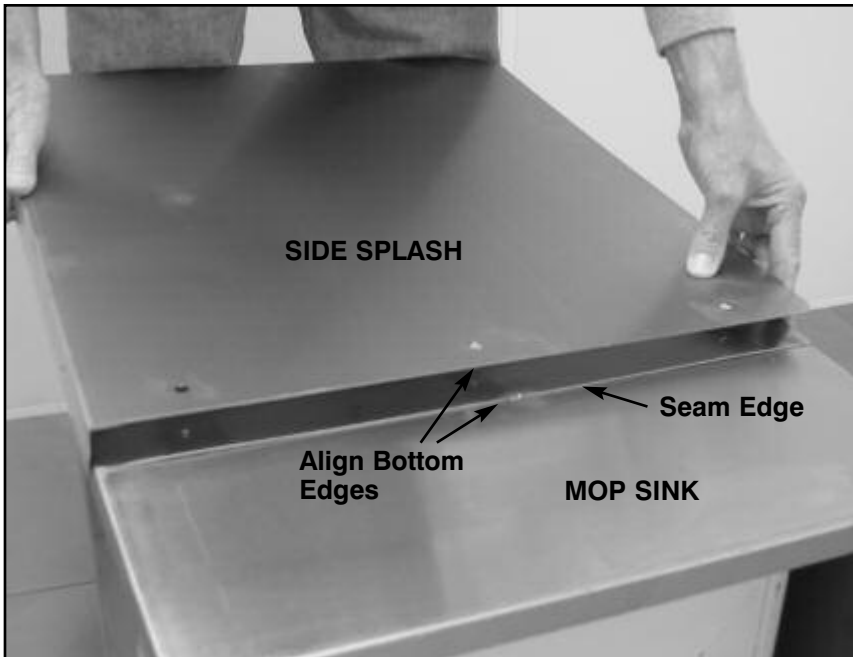

Figure 1
Align bottom edge of Side Splash with bottom Seam of Mop Sink. Mark (3) holes. Drill 3/8" diameter holes and mount Side Splash with Hardware provided (**Figure 1**). Repeat opposite side if applicable.